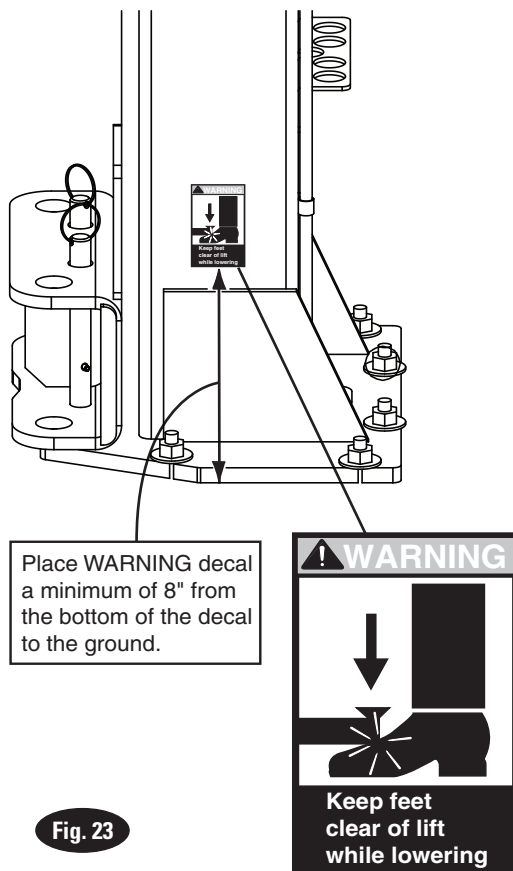

Fig. 23
24. **Pinch Point Decal Location:** Install enclosed pinch point decals. Place (1) decal on each column, Fig. 23.